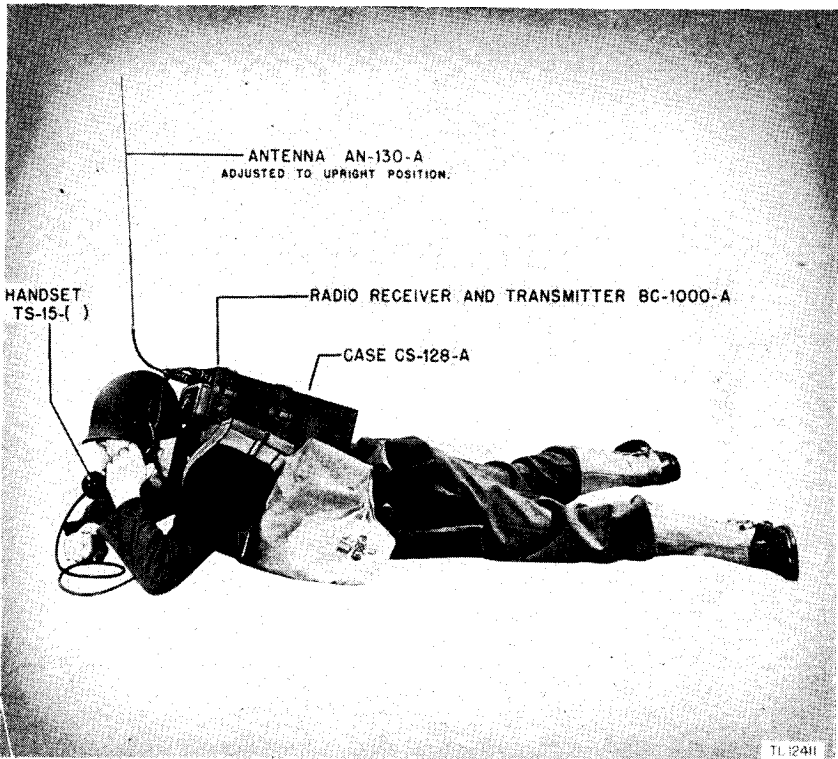

Figure 2. Radio Set **SCR-300-A** in use, showing adjustment of Antenna **AN-130-A**.
e. TYPE OF ANTENNA. Radio Set SCR-300-A is designed for transmission and reception with a vertically polarized antenna. Therefore, great care must be taken to maintain the antenna in a vertical position at all times, regardless of the position of the set. (See fig. 2.)